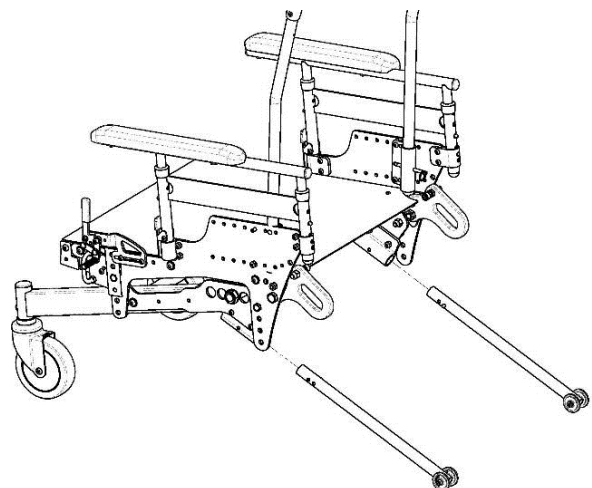

Fig. 13: Installing Anti-Tip Tubes.
1. Press and hold the release button on the anti-tip tube. (See Figure 13)